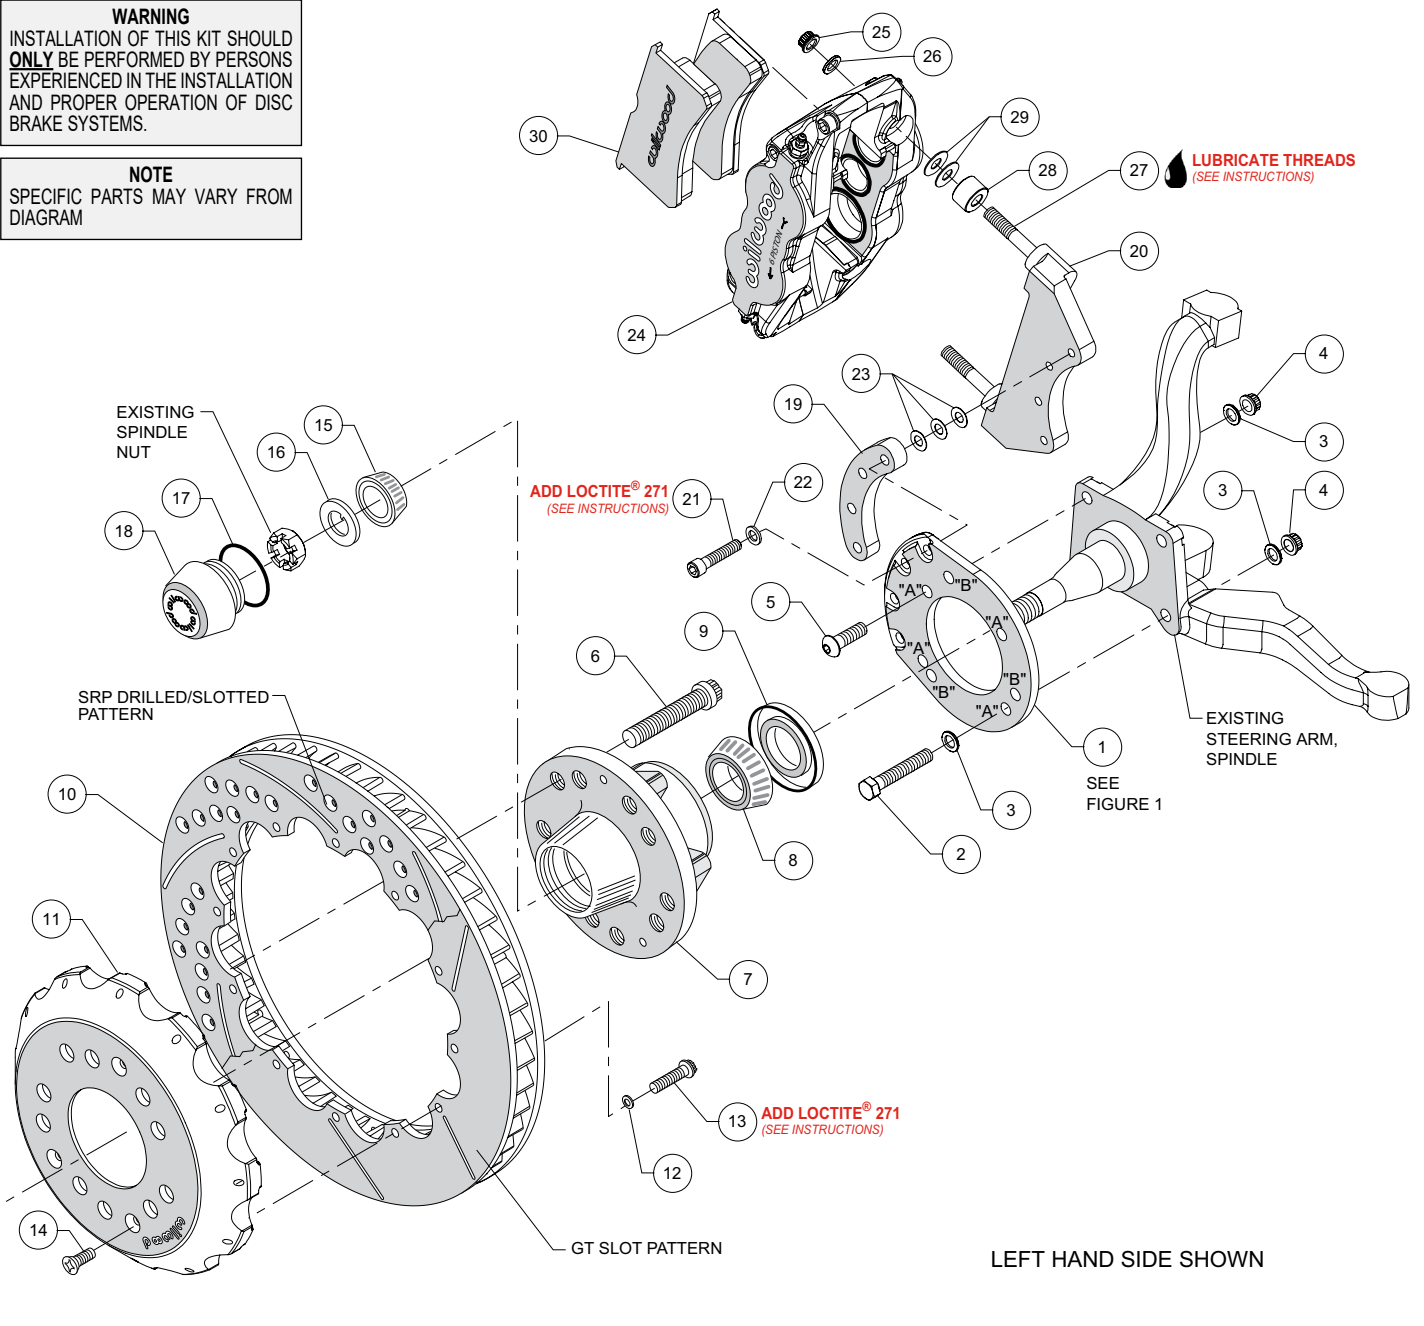
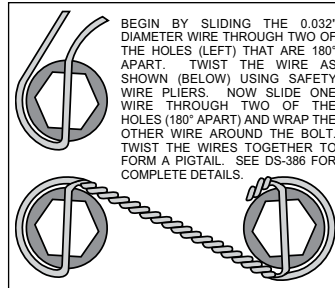

Figure 2. Typical Installation Configuration
Figure 4. Safety Wire Diagram
•**NOTE:** Numbers in parenthesis refer to the parts list and Figure 2 on the preceding pages.
•Align bracket, using the four "A" holes, to the face of the spindle and attach using bolts (2 and 5), washers (3), and lock nuts (4), as shown in Figure 2 and Photo 1. Temporarily tighten the mounting bolts. **NOTE:** The bracket must fit squarely against the mounting points on the spindle. Inspect for interference from casting irregularities, machining ridges, burrs, etc. Torque lock nuts (4) to 25 ft-lb.
•Orient the rotor (10) and the hat (11) as shown in Figure 2 and Photo 6. Attach rotor to hat using bolts (13) and washers (12). Apply red Loctite® 271 to the bolt threads and torque to 155 in-lb using a criss-cross pattern. For an added measure of security, the bolts may be safety wired using standard 0.032 inch diameter stainless steel safety wire as shown in Figure 4. Refer
- Attach the caliper mounting bracket (20) to the spindle bracket (1) using bolts (21), washers (22), and spacer (19) as shown in Figure 2 and Photo 7. Initially place three .015" thick shims (23) on each bolt between the spacer and the caliper bracket. Temporarily tighten the mounting bolts. Later, after the caliper alignment has been checked, the mount bolts will be secured using red *Loctite*® 271.
- NOTE:** *This kit contains distinct right and left hand calipers that must be mounted in a specific direction, as described below.* Lubricate the caliper mounting studs (27) with lightweight oil. Initially place two .035" thick shims (29) and spacer (28) on each stud between the caliper and the bracket, as shown in Figure 2 and Photo 8. Mount the caliper (24) onto the bracket (20) using lock nuts (25) and washers (26), Figure 2. Ensure that the caliper is mounted so the largest pistons are at the rotor exit end of the caliper, in relation to the direction of rotor rotation. Temporarily tighten the lock nuts and view the rotor through the top opening of the caliper. The rotor should be centered in the caliper, Photo 9. If not, adjust by adding or subtracting shims (23) between the caliper bracket (20) and the spacer (19). Always use the same amount of shims on each of the four mounting bolts. Once the caliper alignment is correct, remove the bracket mounting bolts one at a time, apply red *Loctite*® 271 to the threads, and torque to 25 ft-lb.